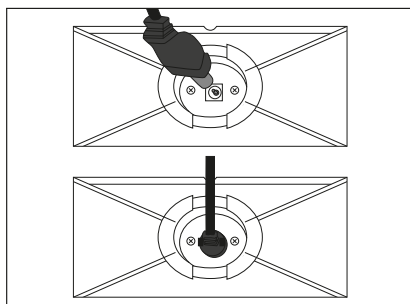

Fig. 5
- 2) Insert the barrel plug **11** of the mains adapter **10** into the connection on the underside of the vacuum stand **17**. Guide the cable of the mains adapter **10** through the recess on the back of the docking station **15** (see Fig. 5).